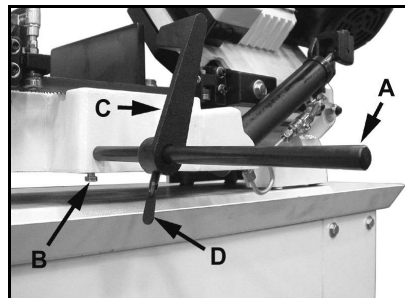

Fig 4
Insert the stop rod (A, Fig 4) into the bed and tighten the set screw (B).